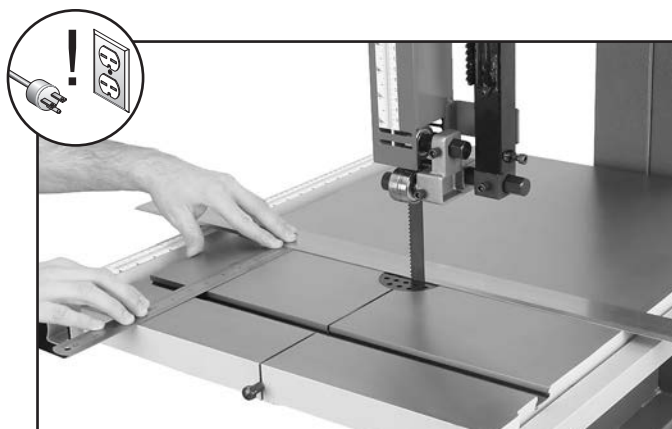

Figure 55. Measuring for miter slot to be parallel with blade.
- Use a fine ruler to gauge the distance between the straightedge and the miter slot. The distance you measure should be the same at the front and the back of the table (see **Figure 55**).